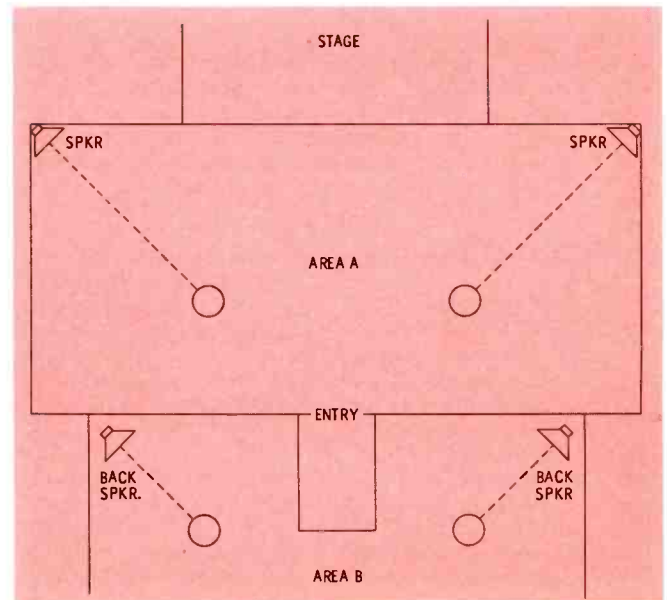

Fig. 2. Separate speakers were finally used for main floor and bleachers in providing better over-all distribution.
Actual tests were made, using recordings of voices, to check reverberation time (which was an unbelievable 1.3 seconds!), dead spots, and echoes. As indicated in Fig. 2, there are two major areas to be covered. One is the main floor (A), where folding chairs seat a large part of the audience at plays, concerts, and other activities; the other (B) includes a stepped arrangement of "bleacher" seats at the back, used by spectators at events such as basketball games. With two large speakers mounted near the stage, it was impossible to get sufficient sound level into these back seats without encountering unbearably high levels on the floor, together with a monumental acoustic feedback! Therefore, it was decided to divide up the area as shown in Fig. 2.
at the rear. These were installed at the front corners of area B, as shown in Fig. 2. Their output was directed backward and downward, so as to strike near the middle of the crowd on either side of the bleachers. Of course, the cone-type speakers used in this installation did not literally "beam" the sound at a specific point, since they have a wide angle of diffusion. However, mounting the speakers at an oblique angle *did* have a very definite bearing on the echo and reverberation problem. By properly angling the different speakers in a multiple system, it is possible to keep the sound reflections from all speakers largely out of phase with one another. This cuts down on the possibility of acoustic feedback. The correct positions are determined most easily in actual practice by experimenting with different angles.